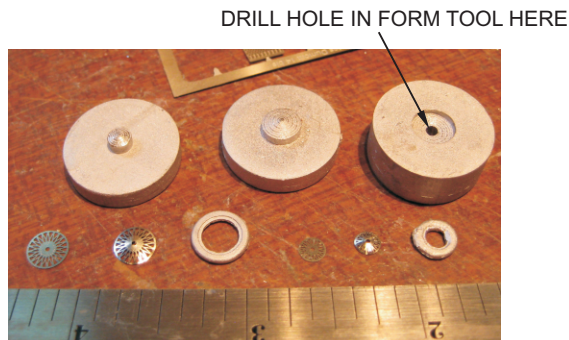

Figure 1
- A Drill a 1/16"/1.5mm diameter hole through the centre of the female form tool as shown in Figure 1 below. This is to let you push the discs of spokes out of the form tool after they have been formed into a cone.